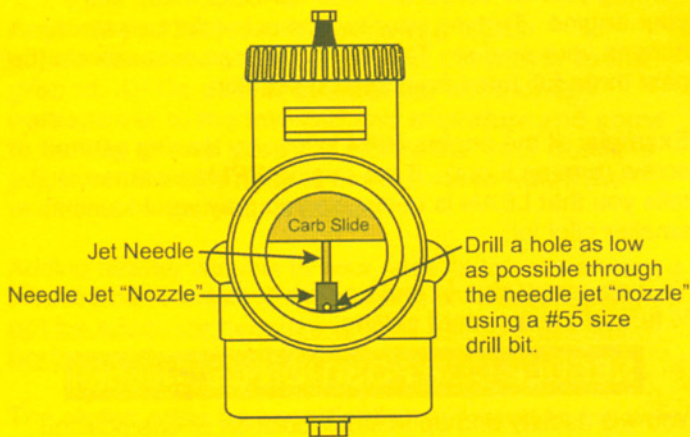

Fig. 3
2. Drill a hole as low as possible through the needle jet "nozzle" using a #55 size drill bit. DO NOT START WITH A BIT LARGER THAN #55 (.052). See Fig. 3